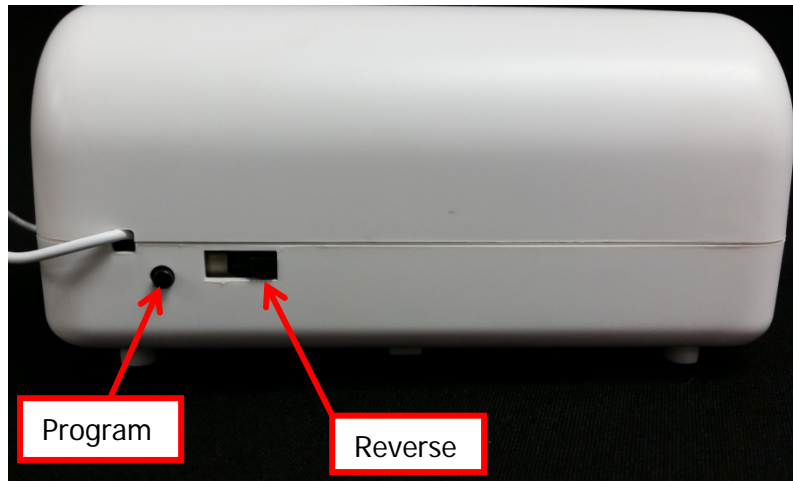

Fig.11
- d. Press and hold the Program Button on the side of the GC732G Controller for about 3 seconds. (See fig11).The Red LED on the Motor Controller will illuminate.